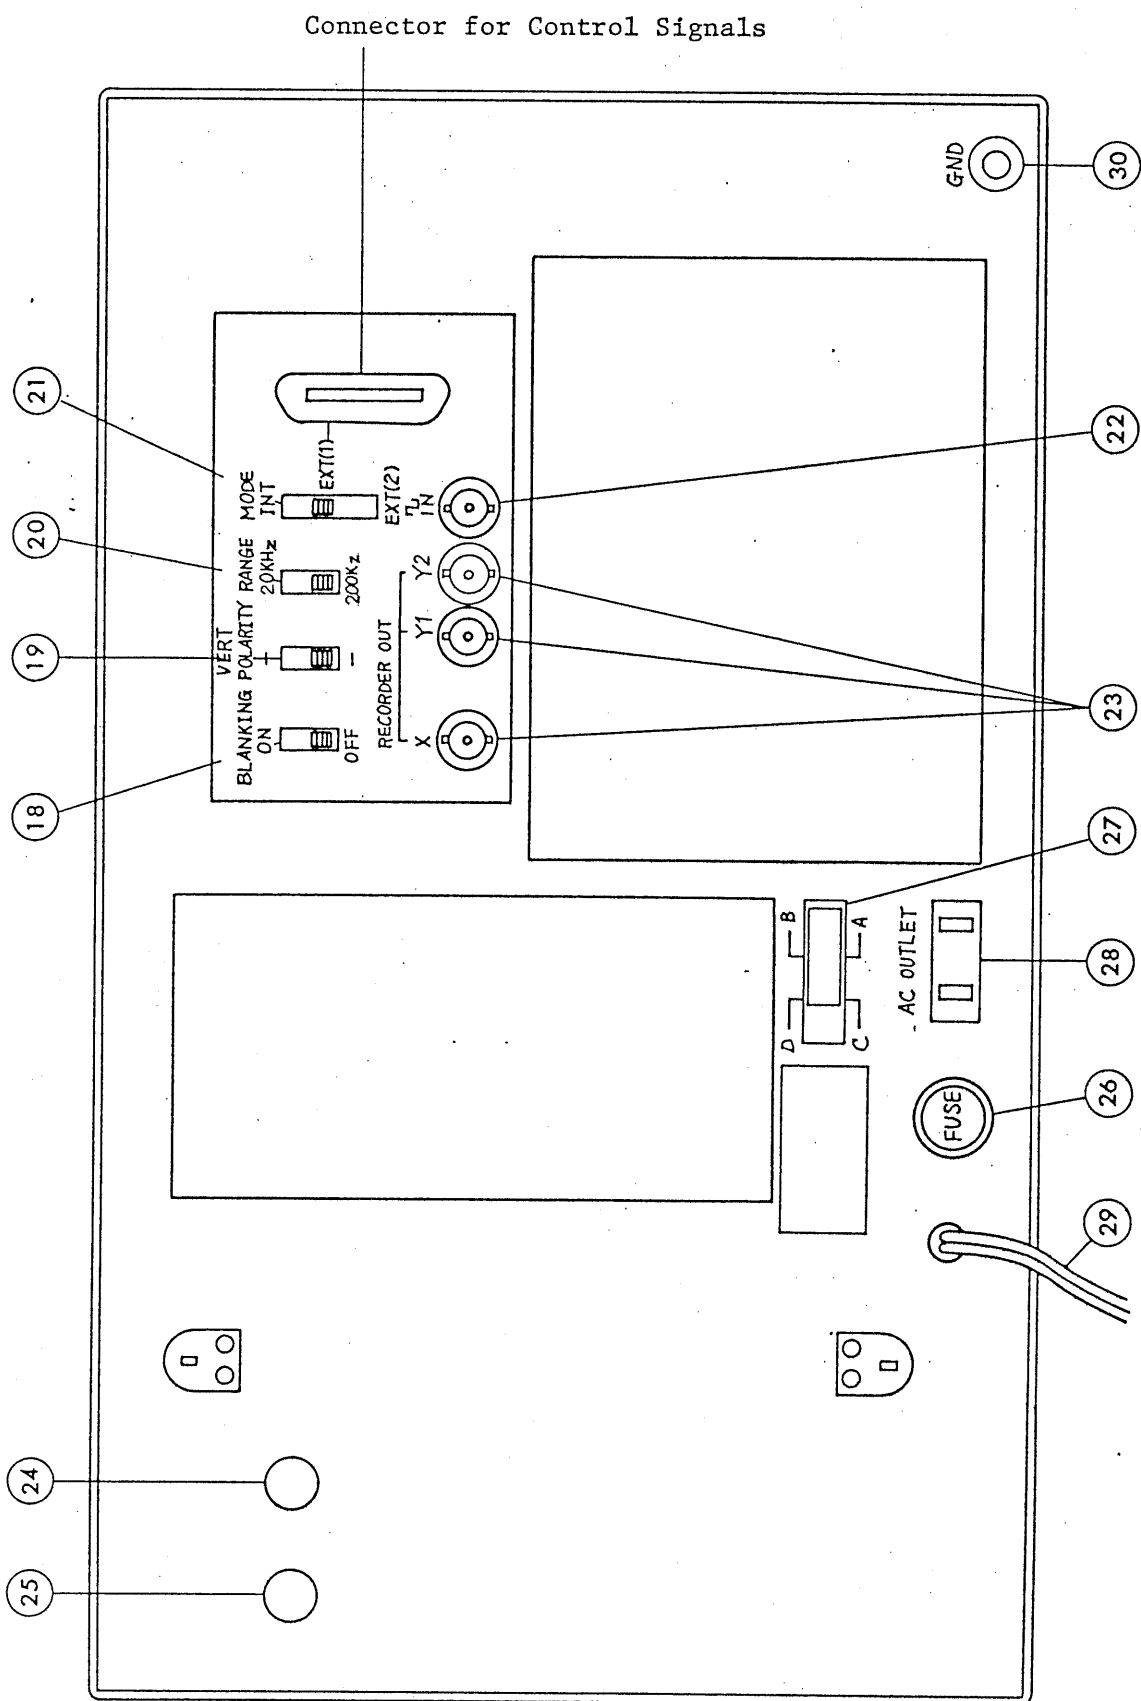

Figure 3-2. Rear panel
- ⑭ RANGE: Dural-knob input level selector for eight ranges in 10-dB steps. The red inner knob is for CH1 and black outer knob for CH2.
- ⑮ Range switch lock button: The black button on the red inner knob. When this button is depressed and clocked, CH1 and CH2 knobs rotates in gang. When unlocked, the two knobs rotates mutually independently.
- ⑯ FINE: Continuously-variable adjustment knob of input level covering a range of 0 to approximately -10 dB to cover each stepwise range change by the RANGE selector switch of each channel. The values of the RANGE selector switch is calibrated with this knob set in the CAL'D position. When the level is adjusted with this knob, the adjusted amount must be subtracted from the range value to obtain the effective dynamic range on the screen.
- ⑰ INPUT Input terminal of each channel for a signal of 20 Hz to 200 kHz, +20 to -100 dBm.
3.2 Explanation of Rear Panel (See Figure 3-2.)
- ⑮ BLANKING: ON/OFF switch of return trace blanking. When in the EXT1 sweep mode, an external TTL level "L" signal is for off. When in the EXT2 or INT sweep mode, the return traces are blanked out by internal circuit.
- ⑯ VERT POLARITY: Polarity selector switch of vertical axis.